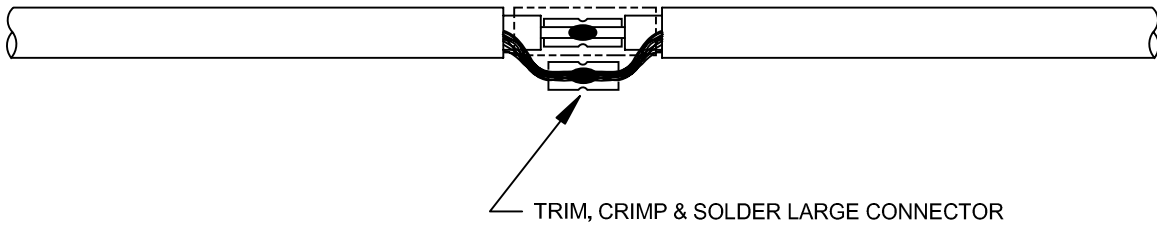

Figure 6.30 – Crimping and Soldering the Braid
- **Step 6:** Trim the braid. Crimp and solder the large connector to the braid on both cables as shown in Figure 6.30.